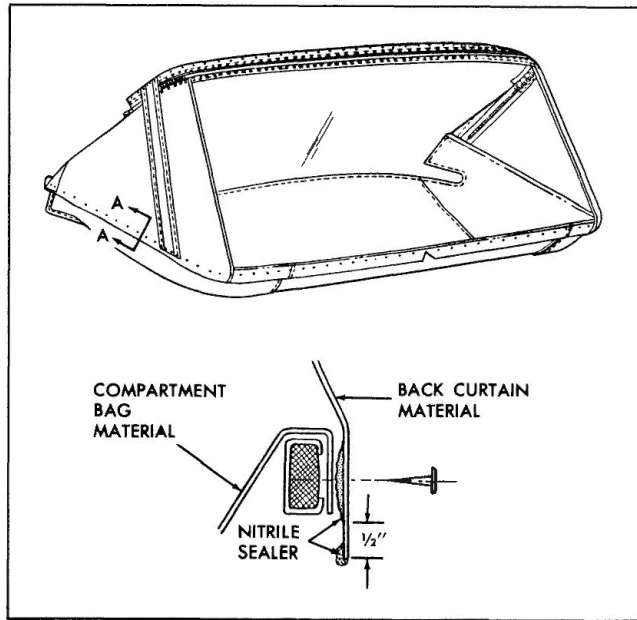

Fig. 22-56 Back Curtain Sealing
3. Place back curtain window assembly on clean covered work bench with exterior (vinyl) surface of back window valance facing down. (Large pliable back window must be handled carefully to avoid possible damage due to scratches, abrasions, etc.). Apply bead of convertible top sealer (nitrile) along lower edge of back curtain material in area which will be tacked to rear and rear quarter trim stick. (See view "A-A" in Fig. 22-56).
4. Apply bead of convertible top sealer (nitrile) along lower selvage edge of back curtain material (Fig. 22-56).
NOTE: Notch in back curtain vinyl at lower edge indicates centerline of back curtain assembly. (Fig. 22-56). In addition, back curtain lower edge should extend 1/2" below lower edge of trim sticks on "Y" styles.
7. Tack curtain to rear and rear quarter trim sticks. Turn forward edge of material rearward to form a water barrier (Fig. 22-56).